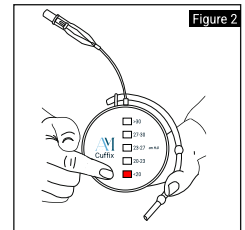

Figure 2
3. A flashing red light will appear, indicating that the pressure is below 20 cm H₂O. [Figure 2].